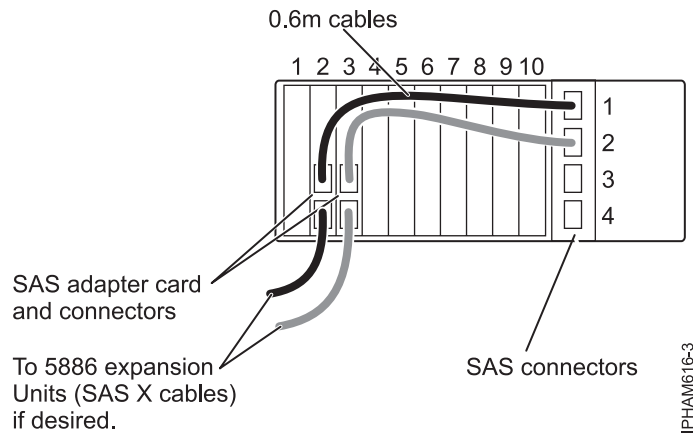

Figure 10. Physical cabling example: One hard-disk-drive partition with 18 disks, dual SAS adapters, and hard-disk-drive partitions switch position 1
<p>One hard-disk-drive partition with 18 disks and dual SAS adapters.</p> <p>This is a multi-initiator high-availability configuration.</p> <p>Dual SAS connectivity to all drives.</p>	<p>For related physical cabling, see Figure 10 on page 34.</p> <p>Operating system: AIX or Linux</p> <p>SAS adapter: Either two (FC 5901) - PCIe Dual - x4 SAS Adapters or two (FC 5903) - PCIe Dual - x4 3Gb SAS RAID Adapters</p> <p>Hard-disk-drive partitions switch: position 1</p> <p>Cables: Two (FC 3688) - SAS cables (AT) 0.6 meter.</p> <p>Note: For AIX and Linux operating systems, this must be a RAID configuration.</p>